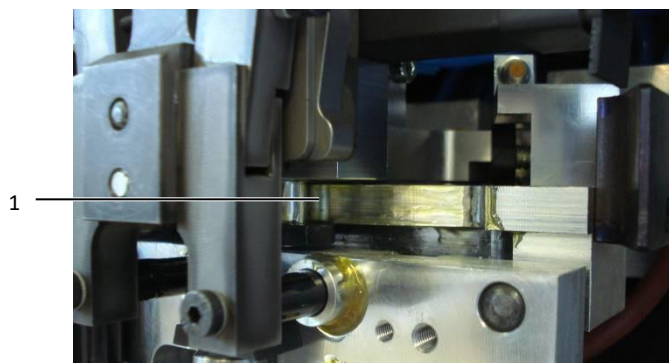

Fig. 27: Tool slide
- Lubricate the contact surface (fig. 27, item 1).